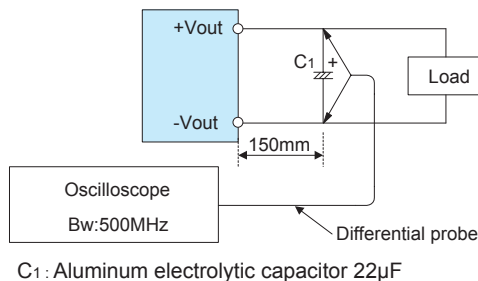

Fig.2.1 Measuring method of Ripple and Ripple Noise
■ Output ripple noise may be influenced by measurement environment, measuring method Fig.2.1 is recommended.